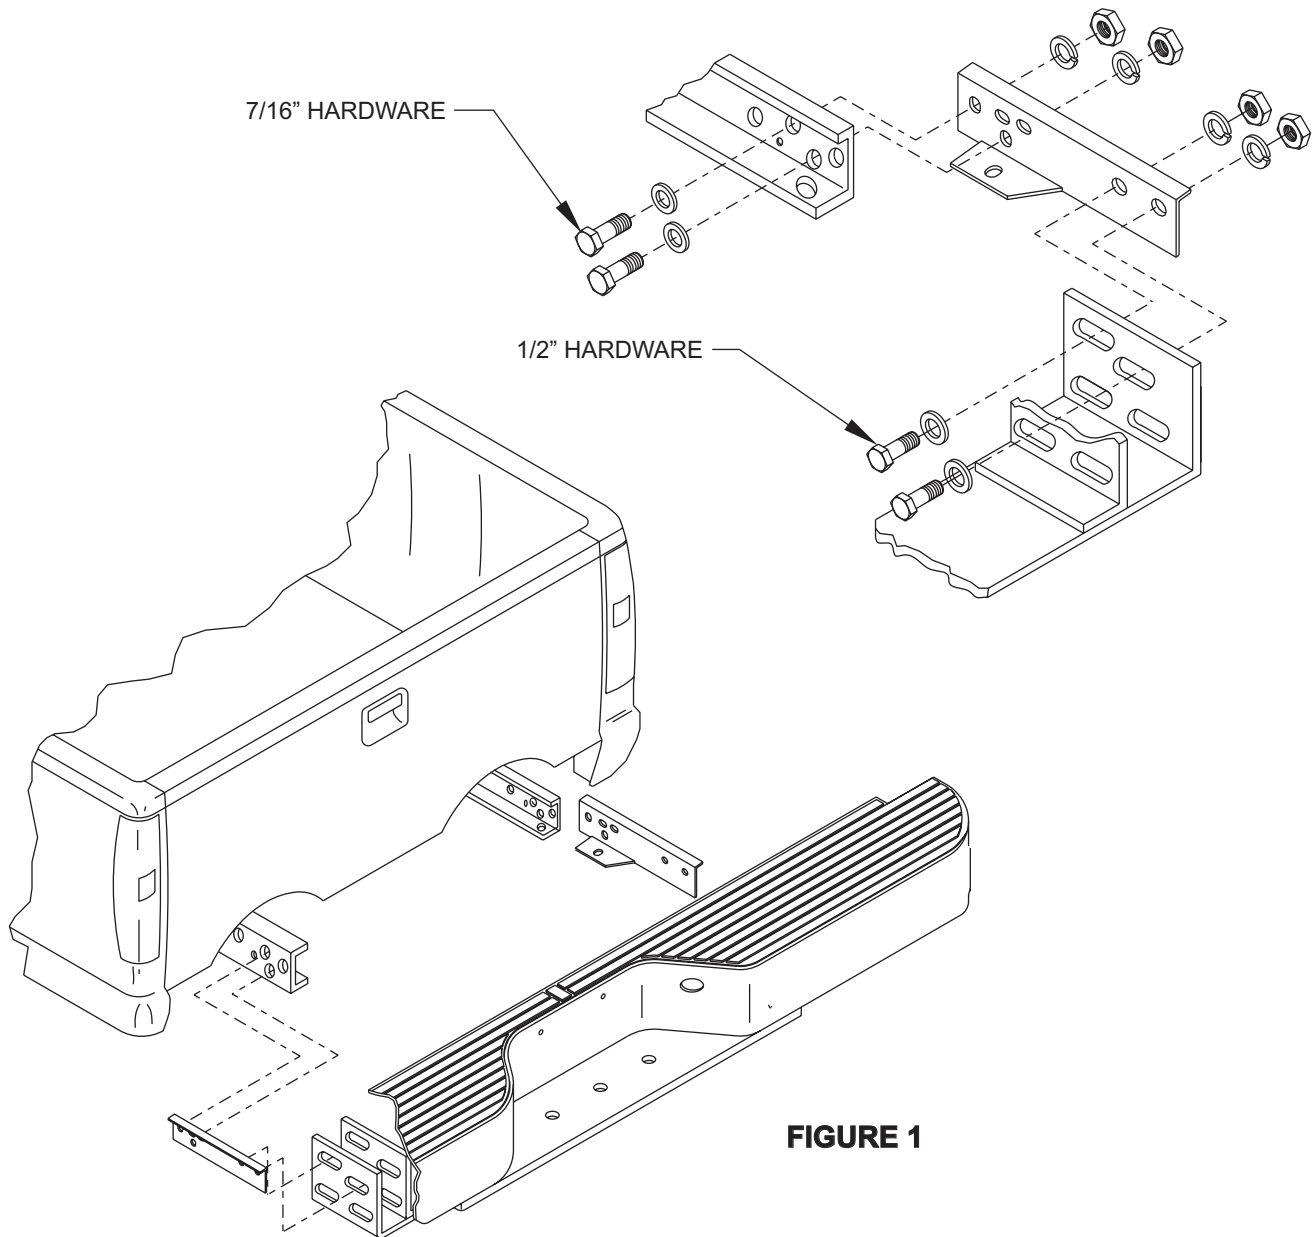

FIGURE 1
- STEP 1: USING 7/16 INCH HARDWARE, LOOSELY INSTALL MOUNTING BRACKET ON THE OUTSIDE OF TRUCK FRAME RAILS. (SEE FIGURE 1). DO NOT TIGHTEN MOUNTING HARDWARE.
- STEP 2: USING OUTER HITCH VERTICALS, INSTALL BUMPER ONTO MOUNTING BRACKETS. (SEE FIGURE 1). DO NOT TIGHTEN MOUNTING HARDWARE.